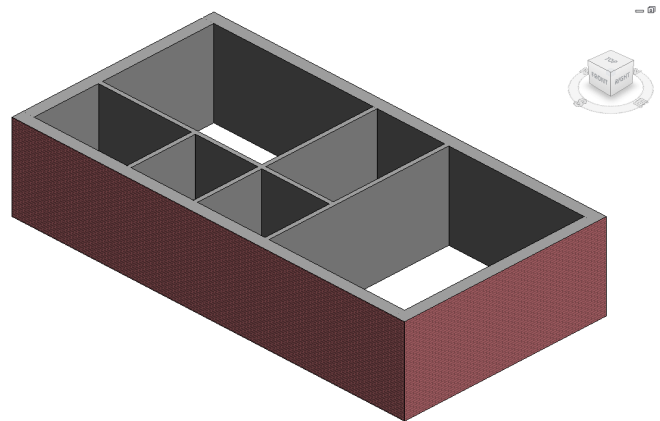

Figure 3-66 3D view of the Apartment 1 building model
8. Now, choose the **Visual Style** button from the **View Control Bar**; a flyout is displayed. Choose the **Shaded** option from this flyout; the 3D view is displayed with shading with edges visible, as shown in Figure 3-66.